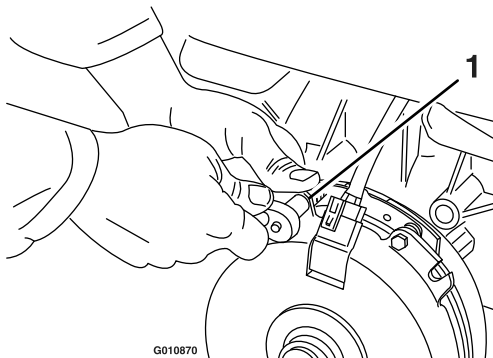

**Figure 65**
3. Using an air compressor, blow out any debris from under the brake pole and around the brake spacers (Figure 65).